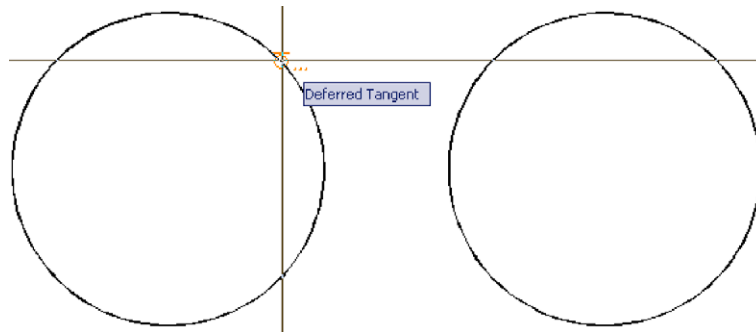
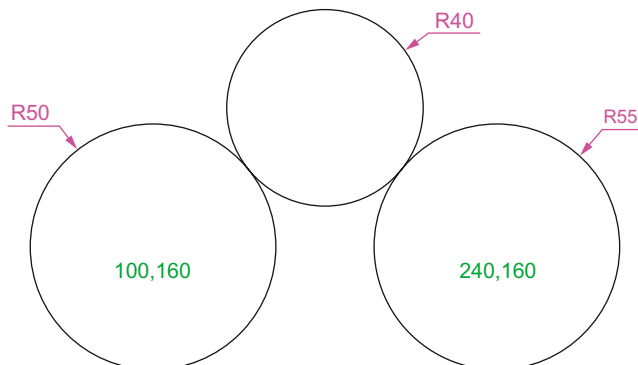

Fig. 2.14 Second example – **Circle** tool – the two circles of radius 50
Fig. 2.15 Second example
Second example – Circle tool (Fig. 2.15)
2. *Left-click* on the **Circle** tool icon and construct two circles as shown in Fig. 2.14 in the positions and radii shown in Fig. 2.15.
The circle of radius **40** tangential to the two circles already drawn then appears (Fig. 2.15).